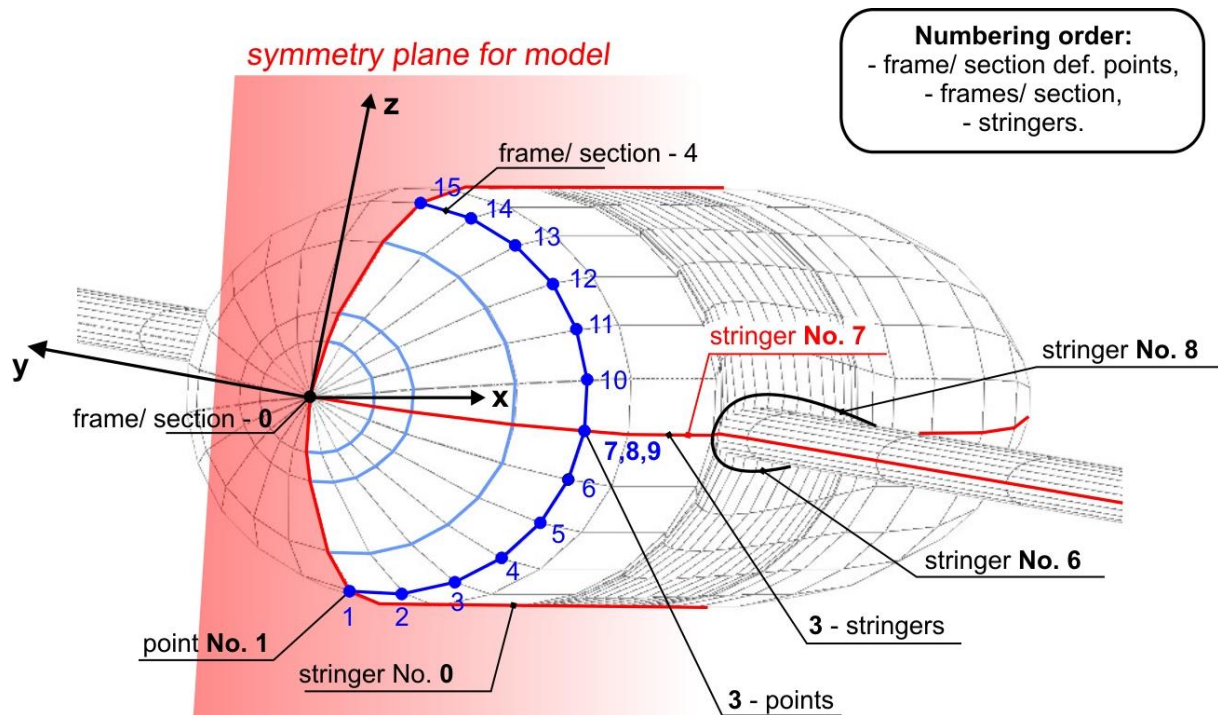

Fig. 5 – Fuselage geometry definition
Yellow marked section def. points belong to 3 independent stringers (Fig. 5), their coordinates are the same outside the area where wing or horizontal tail penetrates fuselage.
- Point numbering order is not the same for frames and stringers, **Fig. 5**
# file ,Fig. 5)